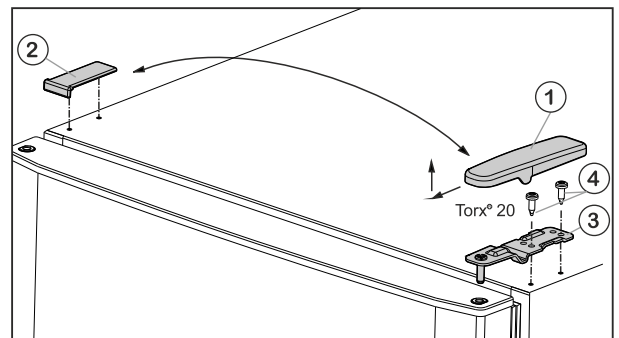
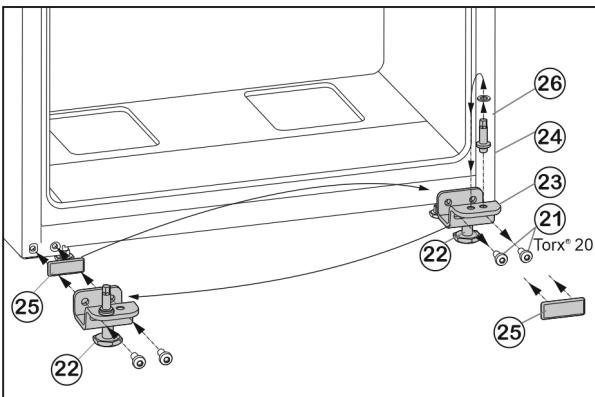

Fig. 5
Fig. 7
- ▶ Pull off the cover Fig. 5 (1) forwards and upwards.
- ▶ Lift off the cover Fig. 5 (2).
- ▶ Unscrew the upper turn hinge Fig. 5 (3) (2 x Torx® 20) Fig. 5 (4) and lift it off.
- ▶ Unscrew fastening screws Fig. 7 (21).
- ▶ Remove the lower bearing block Fig. 7 (23), complete with bearing bolt Fig. 7 (24), washer Fig. 7 (26) and adjustable foot Fig. 7 (22).
- ▶ Unscrew the bearing bolt Fig. 7 (24), complete with washer Fig. 7 (26), re-locate it into the mounting hole on the opposite side of the bearing block and tighten again.
- ▶ Carefully remove the cover plate Fig. 7 (25) and re-locate it to the other side.
- ▶ Fasten the lower bearing block Fig. 7 (23), complete with bearing bolt Fig. 7 (24), washer Fig. 7 (26) and adjustable foot Fig. 7 (22) to the new hinge side, with the help of a cordless screwdriver if necessary, and **tighten (with 4 Nm)** once again.
- ▶ Lower the bottom door onto the bearing bolt Fig. 7 (24).
- ▶ Insert the centre bearing block (13) turned through 180° into the lower door and fasten firmly (**with 4 Nm**) to the new hinge side with the fastening screws (11) (2 x Torx® 20).
- ▶ Refit plastic washer (10).
- ▶ Set the upper door down on the centre bearing block (13).
- ▶ Insert the upper turn hinge Fig. 5 (3) in the door on the new hinge side.
- ▶ Screw in the upper bearing block **tightly (with 4 Nm)** (2 x Torx® 20) Fig. 5 (4). Use a cordless screwdriver if necessary.
- ▶ Fit the cover Fig. 5 (1) on the opposite side by sliding it rearwards and latching it into place.
- ▶ Press the cover Fig. 5 (2) on the opposite side down into place until it latches.
- ▶ Unscrew the adjustable foot Fig. 7 (22) on the lower bearing block Fig. 7 (23) until it reaches the floor.